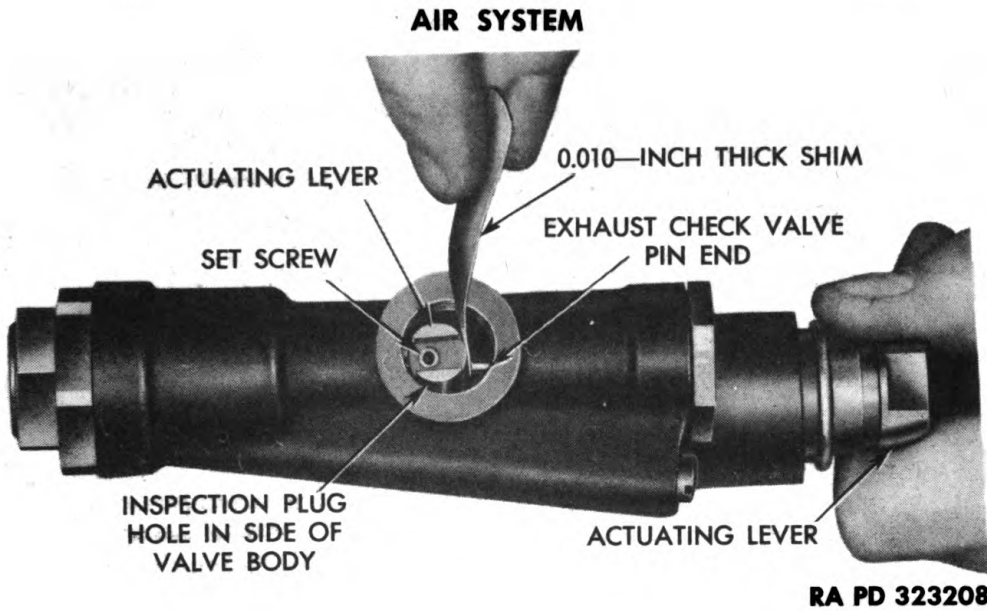

Figure 213 — Checking Adjusting Screw Setting in Clutch Shifting Valve
(1) **ADJUSTING SCREWS** (fig. 213). Install one actuating lever inspection plug. Turn valve over, and insert screwdriver in inspection plug hole in side of valve body to turn actuating lever adjusting screw. Turn adjusting screw so that when actuating lever shaft is moved to where adjusting screw head just contacts the inlet piston, a 0.010-inch thickness gage can be inserted between actuating lever and exhaust check valve pin end. When adjustment is correct, tighten set screw securing adjusting screw. Repeat this operation for second adjusting screw.